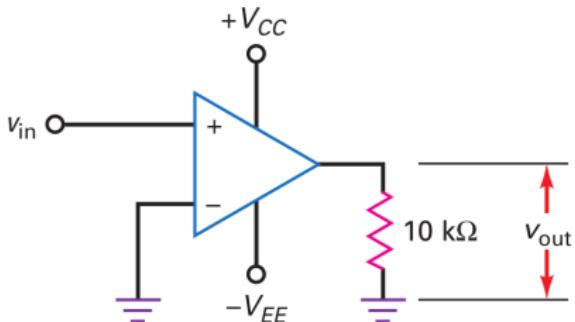

Figure 8: Narrow linear region of typical comparator
- ▶ Fig. 8 shows a zero-crossing detector.